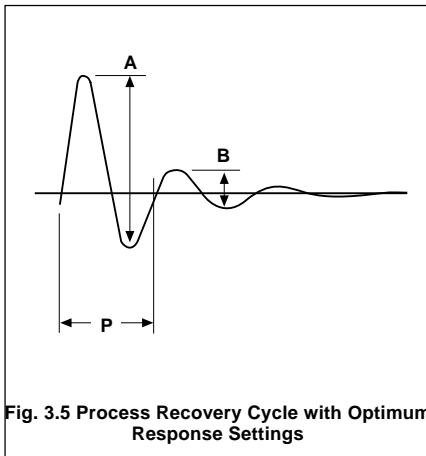

Fig. 3.5 Process Recovery Cycle with Optimum Response Settings
- 6) Compare the recorded oscillation with Fig. 3.5. Cycle B should be approximately  $\frac{1}{4}$  of cycle A as shown in the figure. If it is not, change the proportional band setting and repeat Steps 4 and 5. Decreasing the proportional band setting (increasing gain) increases cycle B relative to cycle A. If the controller has proportional response (P) only, no further adjustment is required. If the controller has two or three responses, proceed to Step 7.
- 7) Measure the period (P) of oscillation in minutes. The period is the time required for one complete cycle.
**3.10 Automatic Tuning – Fig. 3.5**
The controller output changes by plus and minus the output step size from its initial starting value when autotune is executed (refer to Fig. 3.5). This value should be large enough so that the amplitude of the process variable excursions is at least 4 times larger than the hysteresis parameter. This allows the best possible response data. The output step size should also be small enough to avoid crossing either of the process variable trip-points.
The hysteresis value is used in determining when to change the controller output value (refer to Fig. 3.5). When the process variable crosses the hysteresis band (plus and minus the *HYSL* value), the controller output changes by plus and minus the *SLP* value from its initial starting value. The hysteresis value must be set so that it is larger than the noise in the process variable signal, allowing the best possible response data.